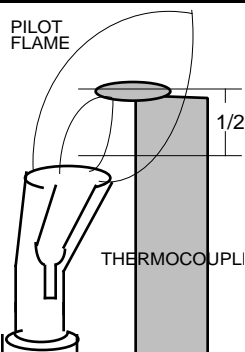

Figure 10
1. The **PILOT FLAME** should be steady and soft blue surrounding approximately 1/2 inch of the thermocouple tip (see Figure 10).